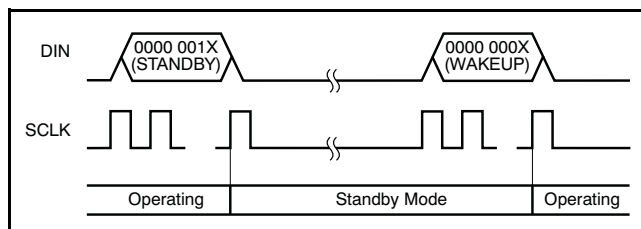

**Figure 53. STANDBY Command Sequence**
**Description:** This command places the ADS1281 into Standby mode. In Standby, the device enters a reduced power state where a low quiescent current remains to keep the register settings and SPI interface active. For complete device shutdown, take the PWDN pin low (register settings are not saved). To exit Standby mode, issue the WAKEUP command. The operation of Standby mode is shown in Figure 53.